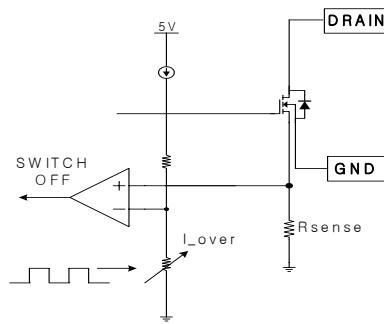

Figure 8. Soft Start Function
5. Soft Start : The FPS™ has an internal soft start circuit that increases the feedback voltage together with the Sense FET current slowly after it starts up. The typical soft start time is 15msec, as shown in figure 8, where progressive increments of Sense FET current are allowed during the start-up phase. The pulse width to the power switching device is progressively increased to establish the correct working conditions for transformers, inductors, and capacitors. The voltage on the output capacitors is progressively increased with the intention of smoothly establishing the required output voltage. It also helps to prevent transformer saturation and reduce the stress on the secondary diode.